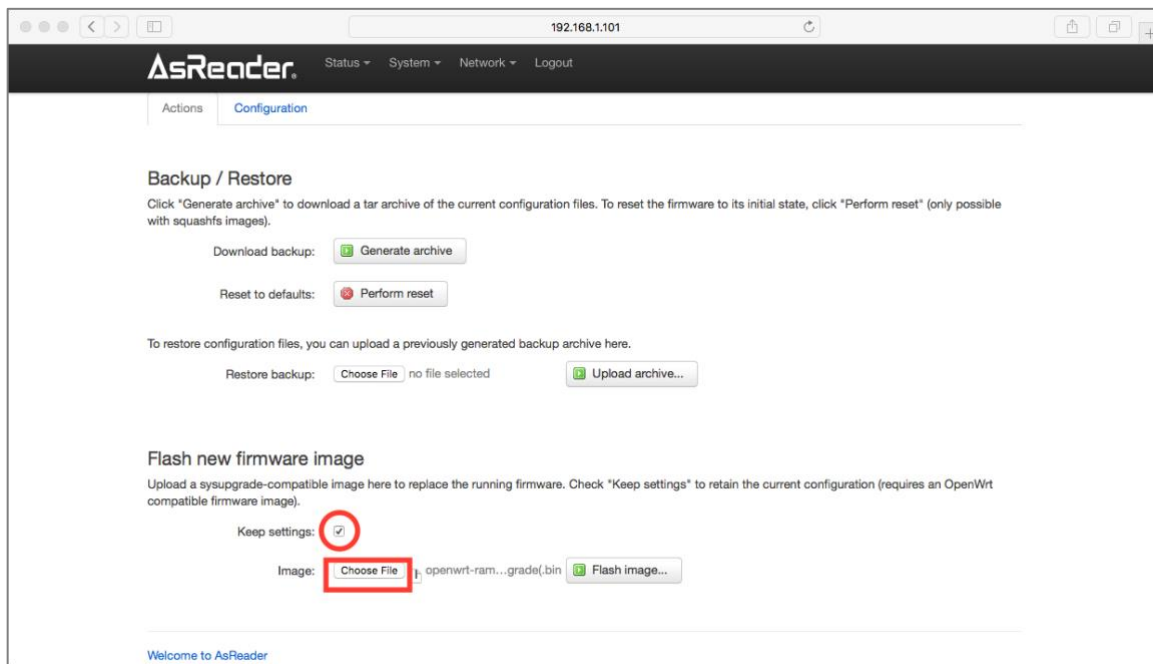

FIG. 4-3 Select a firmware to update to
- 6) Click the "Flash image..." Button, as shown in FIG. 4-3 at the bottom right.